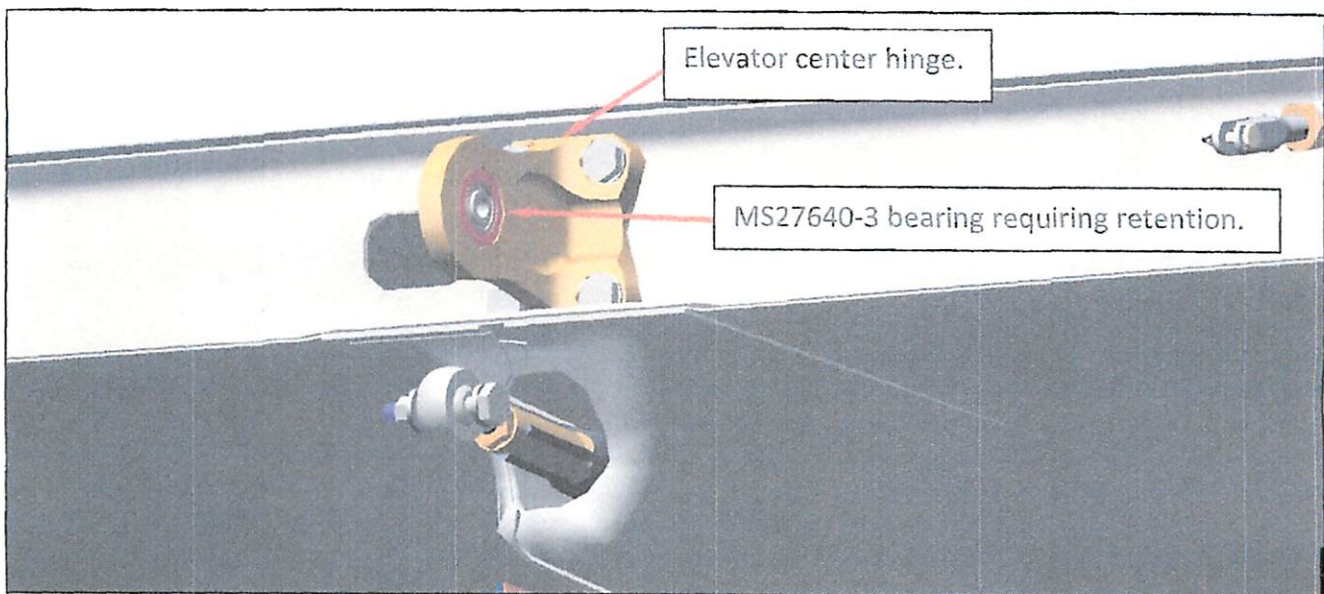

Figure 2: Elevator center hinge.
3. Inspect the installed bearing (MS27640-3) identified on Figure 2. If the bearing is firmly retained, the outer race is flush and square with the elevator center hinge surfaces, and there is evidence of Loctite 603 (Loctite 603 is light green in color and may have partially filled the chamfer on the bearing outer race) having been applied on installation, it is acceptable to leave the installation untouched (leave bearing installed, and skip steps 4 to 9 below). If there is any uncertainty at all, remove and replace the bearing in accordance with the following steps.
4. Remove the bearing (MS27640-3) from the elevator center hinge shown in Figure 2.